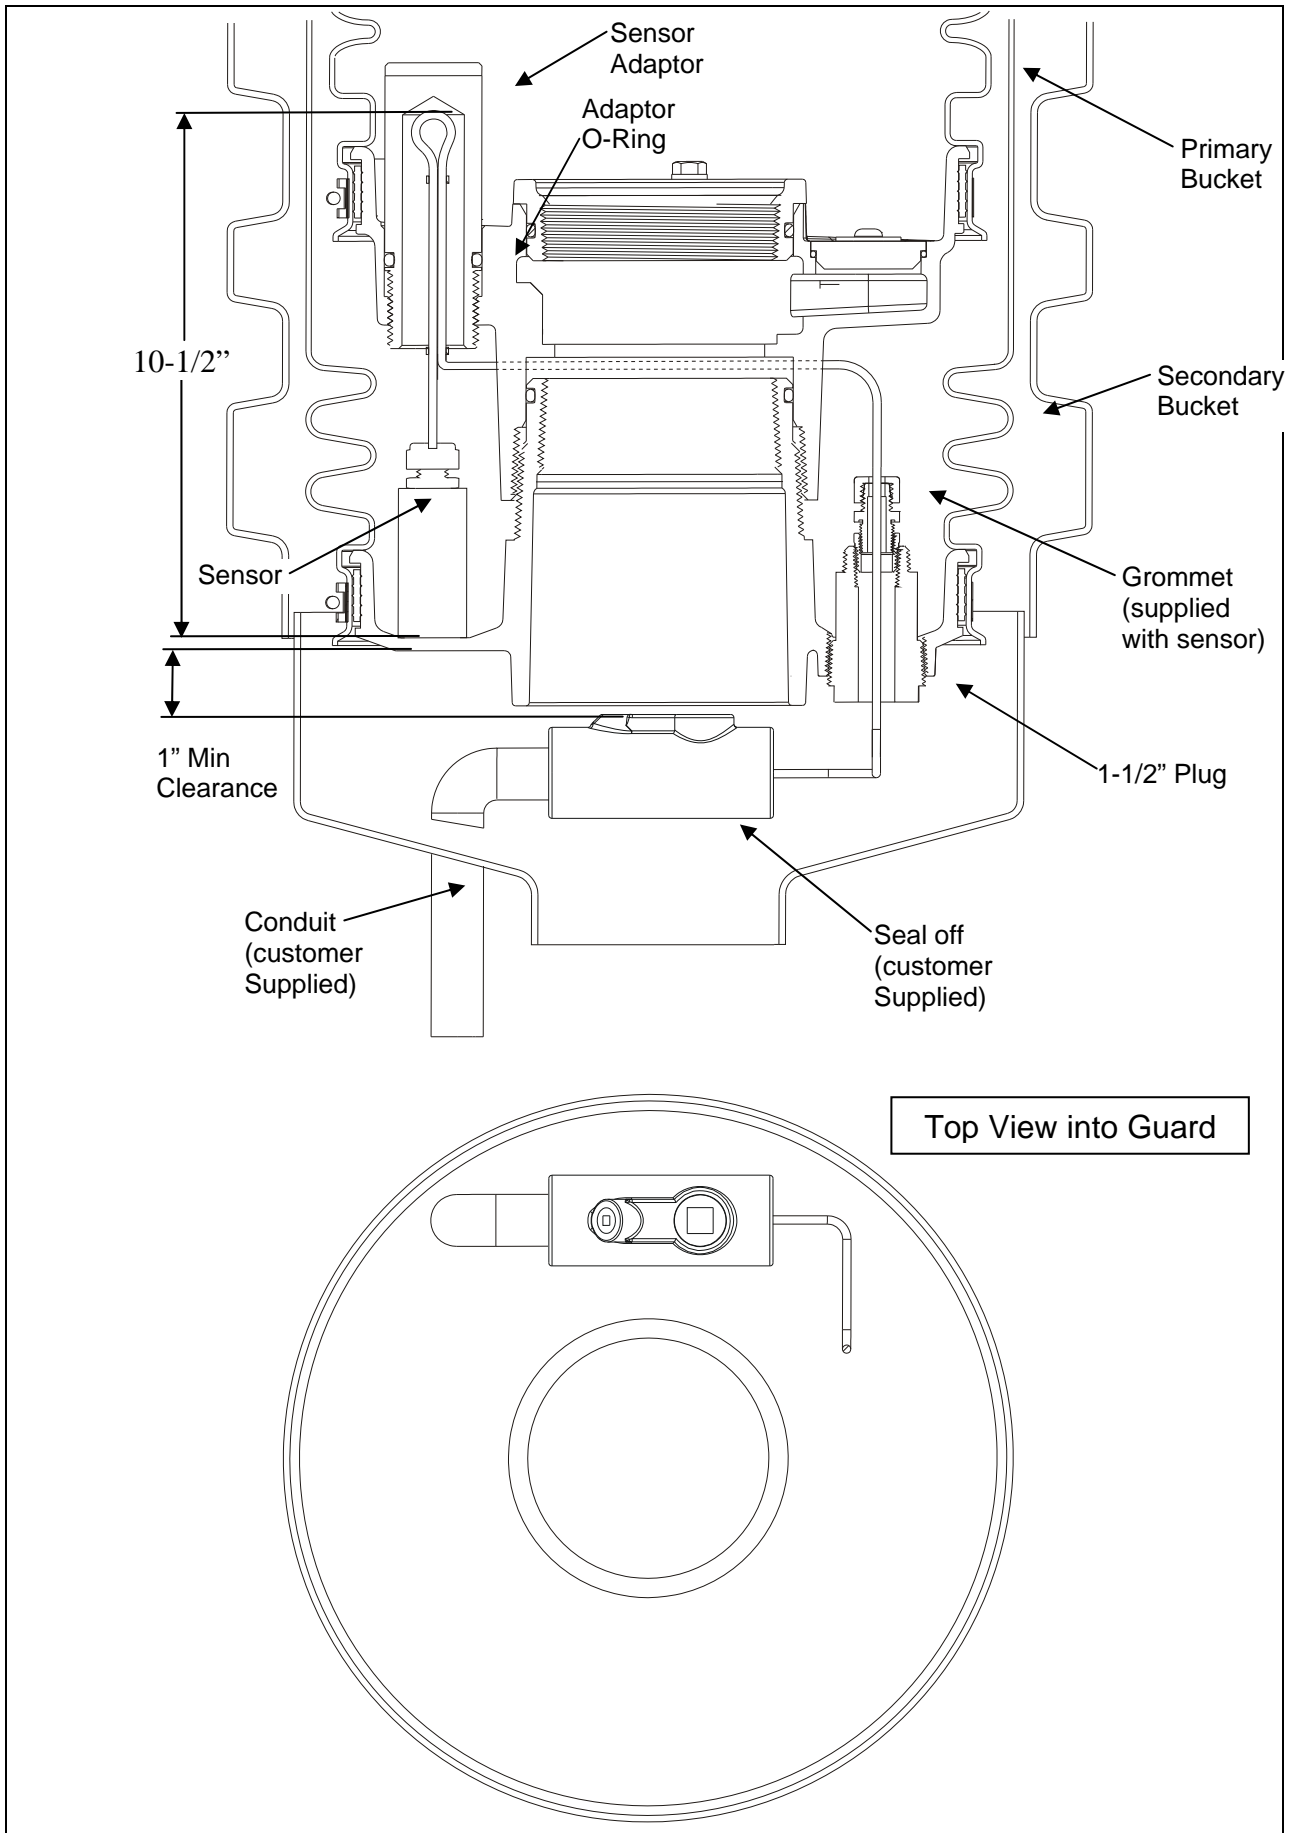

Figure 1
Step 1: (See Figures 1 & 4)
Step 4: (See Figure 1)
Verify that the factory installed loop in the sensor wire is 10-1/2" tall from the bottom of the sensor to the top of the loop as shown in Figure 1. Cut new sensor wire 2 feet from the sensor loop.
Step 13: (See Figures 1 & 4)
Wait at least 5 minutes then feed the splice kit and excess wire into the secondary bucket. Align sensor with the hole in the primary base where the sensor adaptor will be installed as shown in Figures 1 & 4. Ensure sensor is as flat as possible on bottom of secondary base. Inspect o-ring on sensor adaptor replace if it is not in good condition. Thread sensor adaptor back into primary bucket until o-ring is no longer visible (approximately 6 turns), do not overtighten.